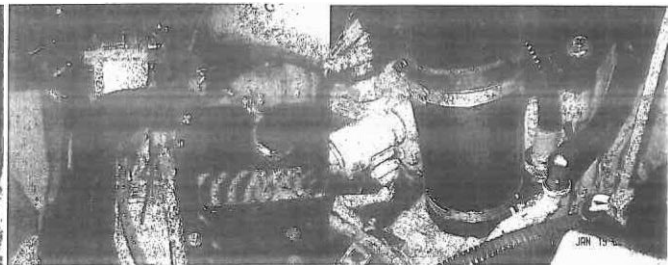

Figure 2 – C15
3. For CAT C15 thermostat: Remove one of the two possible 3/4-16" plugs located at the top of the thermostat housing below the coolant inlet hose (see Figure 2).